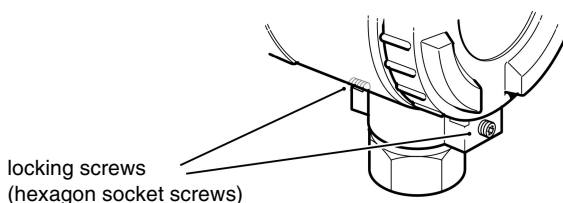

Figure 3-2: Housing locking screws
3.5 To Rotate the Housing (Figure 3-2)